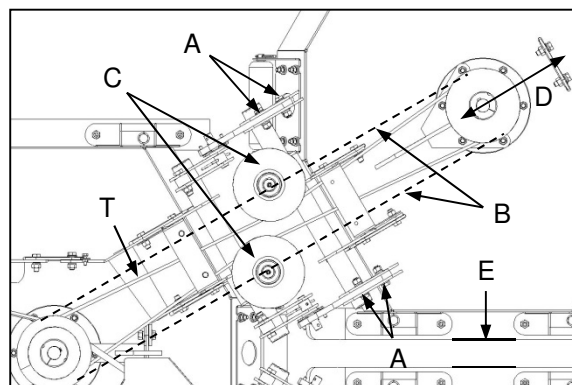

Fig. 7
- ✓ Loosen the adjuster locking nuts (Fig. 7-A) immediately behind the deck pivot pins, and allow the drive belt to lie OVER the idler pulley group (Fig. 7-C).
- ✓ Ease the rear deck backwards (Fig. 7-D) such that all slack in the belt is taken up and the belt adopts a straight line between pulleys (Fig. 7-B). Ensure also that the deck skids remain aligned with the implement direction of travel (Fig. 7-E).
- ✓ Draai die verstelsluitbout (Fig. 7-A) onmiddellik agter die dekspilpenne los, en laat die dryfband OOR die luierkatrolgroep lê (Fig. 7-C).
- ✓ Druk die agterste dek geleidelik agtertoe (Fig. 7-D) totdat daar geen speling meer in die band is nie en die band 'n reguit lyn tussen katrolle vorm (Fig. 7-B). Verseker ook dat die dekglystukke belyne bly met die implement se bewegingsrigting (Fig. 7-E).